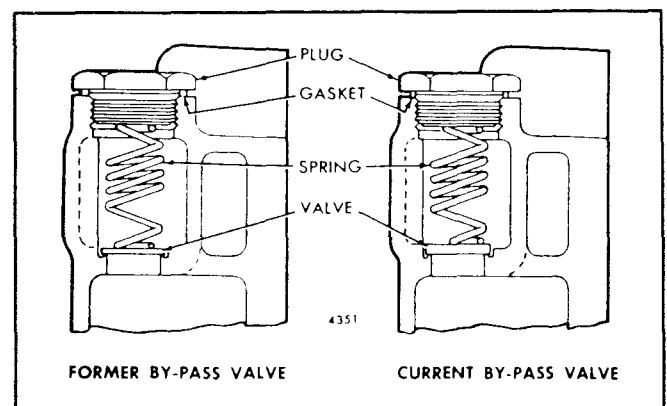
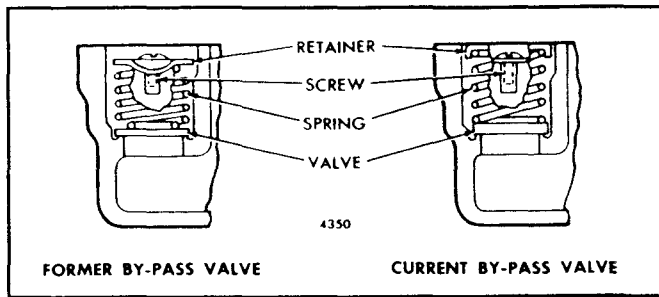

Fig. 5 - By-Pass Valve Assembly Secured by Plug
Fig. 6 - By-Pass Valve Assembly Secured by Retainer and Screw
2. Remove the plug and gasket (Fig. 5) or the screw and retainer (Fig. 6) and withdraw the spring and by-pass valve.
5. Reassemble and install the by-pass valve. Use only the current by-pass valve and spring (Fig. 5) for service. The current thicker valve and stiffer spring increase the by-pass pressure from 13-18 psi to 18-21 psi to permit more efficient filtration. A thicker valve, stronger spring, heavier retainer and a longer retaining screw are currently used in the by-pass valve assembly shown in Fig. 6. The filter adaptors and filter junction housings have been revised by deepening the valve cavity to accommodate the thicker valve and related parts.